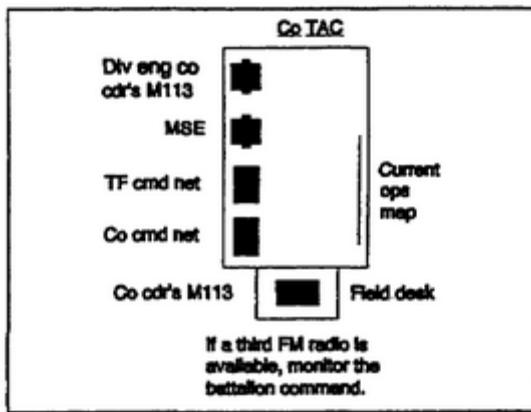

Figure 3-2. Company TAC.
- TAC. The division engineer company TAC (Figure 3-2) is very mobile and usually collocates with the TF TAC so it can control the fight or the operation.